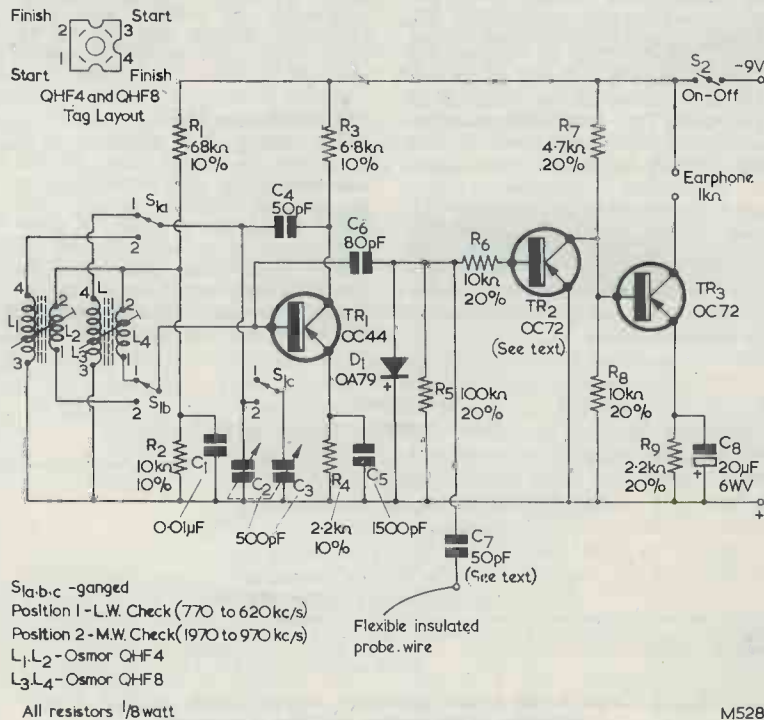

Fig. 1. The circuit of the oscillator checker
The circuit of the tester appears in Fig. 1. In this diagram the two oscillator coils appear as L_1 , L_2 and L_3 , L_4 . The coupling windings, L_2 and L_4 , are connected to the base of oscillator transistor TR_1 by way of $S_{1(b)}$, feedback from the collector to the tuned windings, L_1 and L_3 , being effected via C_4 and $S_{1(a)}$. When $S_{1(a)}$ and $S_{1(b)}$ are in position 1, coil L_3 , L_4 is selected. This is a medium wave coil, Osmor type QHF8, and it is tuned by the 500pF capacitor C_2 . When $S_{1(a)}$ and $S_{1(b)}$ are in position 2, L_1 , L_2 is selected, this coil being an Osmor QHF4 designed for the "shipping" bands. At the same time $S_{1(c)}$ connects in parallel with C_2 , giving a total tuning capacitance of 1,000pF.
r.f. at a reasonably constant level for all settings of C_2 (or C_2 and C_3 in parallel) and this results in a steady d.c. voltage being available across the diode. In Fig. 1 the diode is so connected that the steady rectified voltage is negative of the positive supply line. The rectified voltage is then used to bias TR_2 . Thus, resistor R_6 carries out three functions: it allows the passage of a.f. to TR_2 ; it decouples the transistor base from the diode circuit, thereby reducing the r.f. applied to the base and preventing excessive damping of the diode detector circuit; and it allows a bias current of correct proportions to flow in the base-emitter junction. Thus, by taking
any a.f. transistor here. Equivalents to the OA79 should, similarly, cope in the D₁ position. A 1kΩ earphone was employed by the writer with the prototype, but it is probable that any high-impedance magnetic earphone would be equally satisfactory. It should be pointed out that C₇ is merely an isolation capacitor, and that it could have any value between 25 and 100pF instead of the 50pF specified in Fig. 1.